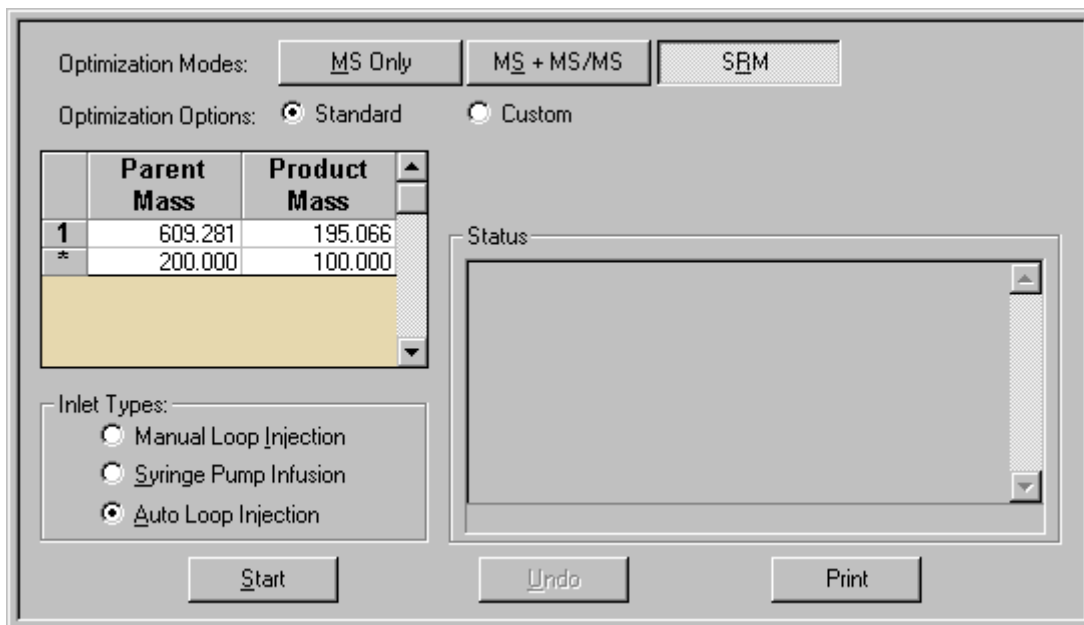

Figure 4-10. Compound Optimization view
- a. In the Compound Optimization view in the top left corner of the workspace, select **Optimization Modes: SRM** to enable you to optimize a selected reaction. See Figure 4-10.